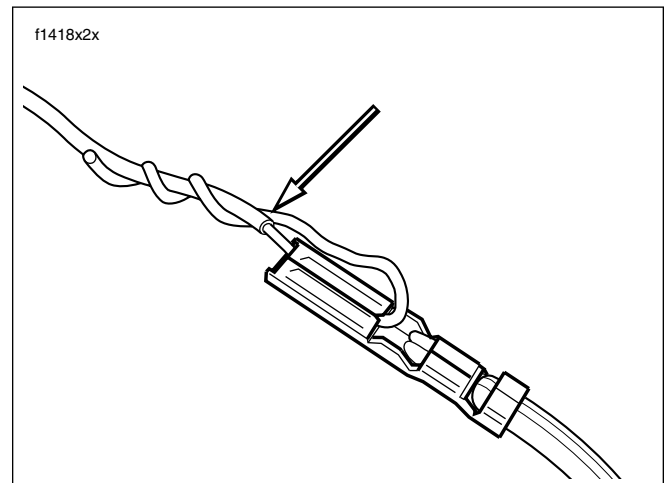

Figure 8-14. Fix Mechanic's Wire to Socket Terminals
5. See Figure 8-14. Obtain equal lengths of string flexible wire for use as mechanic's wire. Feed wire through opening in socket terminal and then loop back twisting end until tightly coiled around longer strand. Repeat step with remaining socket terminals.